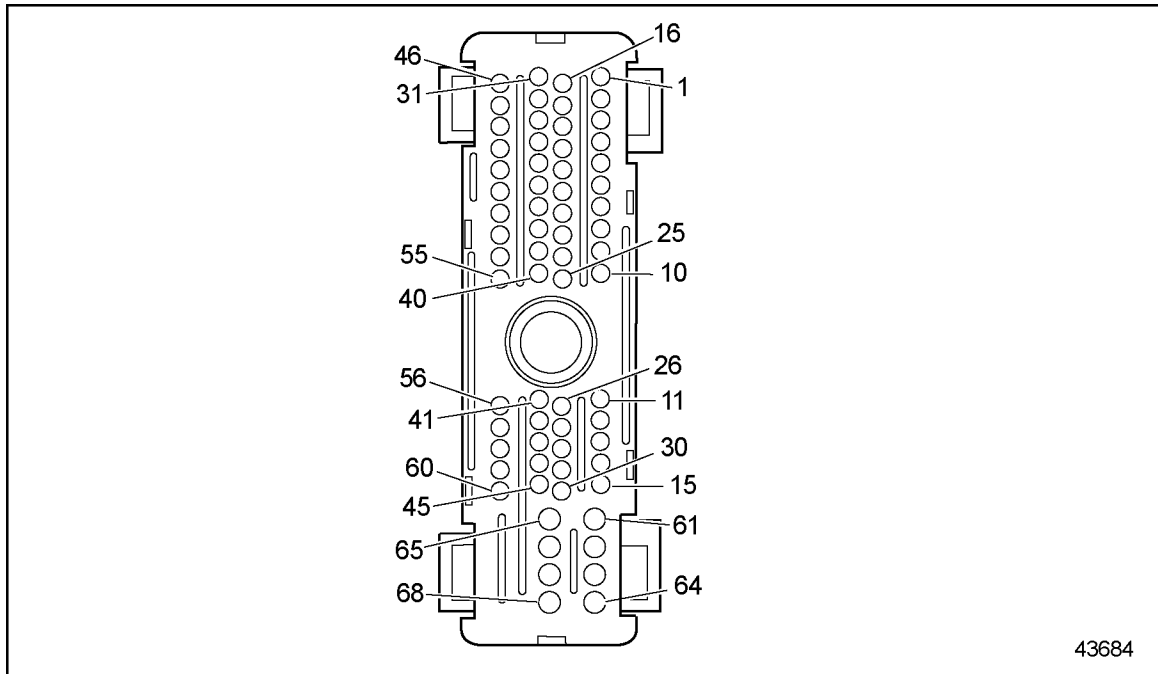

Figure 23-5 Engine Harness Connector
4. Measure resistance between sockets E-7 and E-12, E-7 and E-26 on the Engine Harness connector. See Figure 23-5.
3. Measure resistance between sockets E-7 and E-15 on the Engine Harness connector. See Figure 23-5.
- 4. Check terminals at the ECM/ECU Engine Harness connector (both ECM/ECU and harness side) for damage: bent, corroded and unseated pins or sockets. See Figure 23-5
- [a] Check terminals at the ECM/ECU Engine Harness connector (both ECM/ECU and harness side) for damage: bent, corroded and unseated pins or sockets. See Figure 23-5